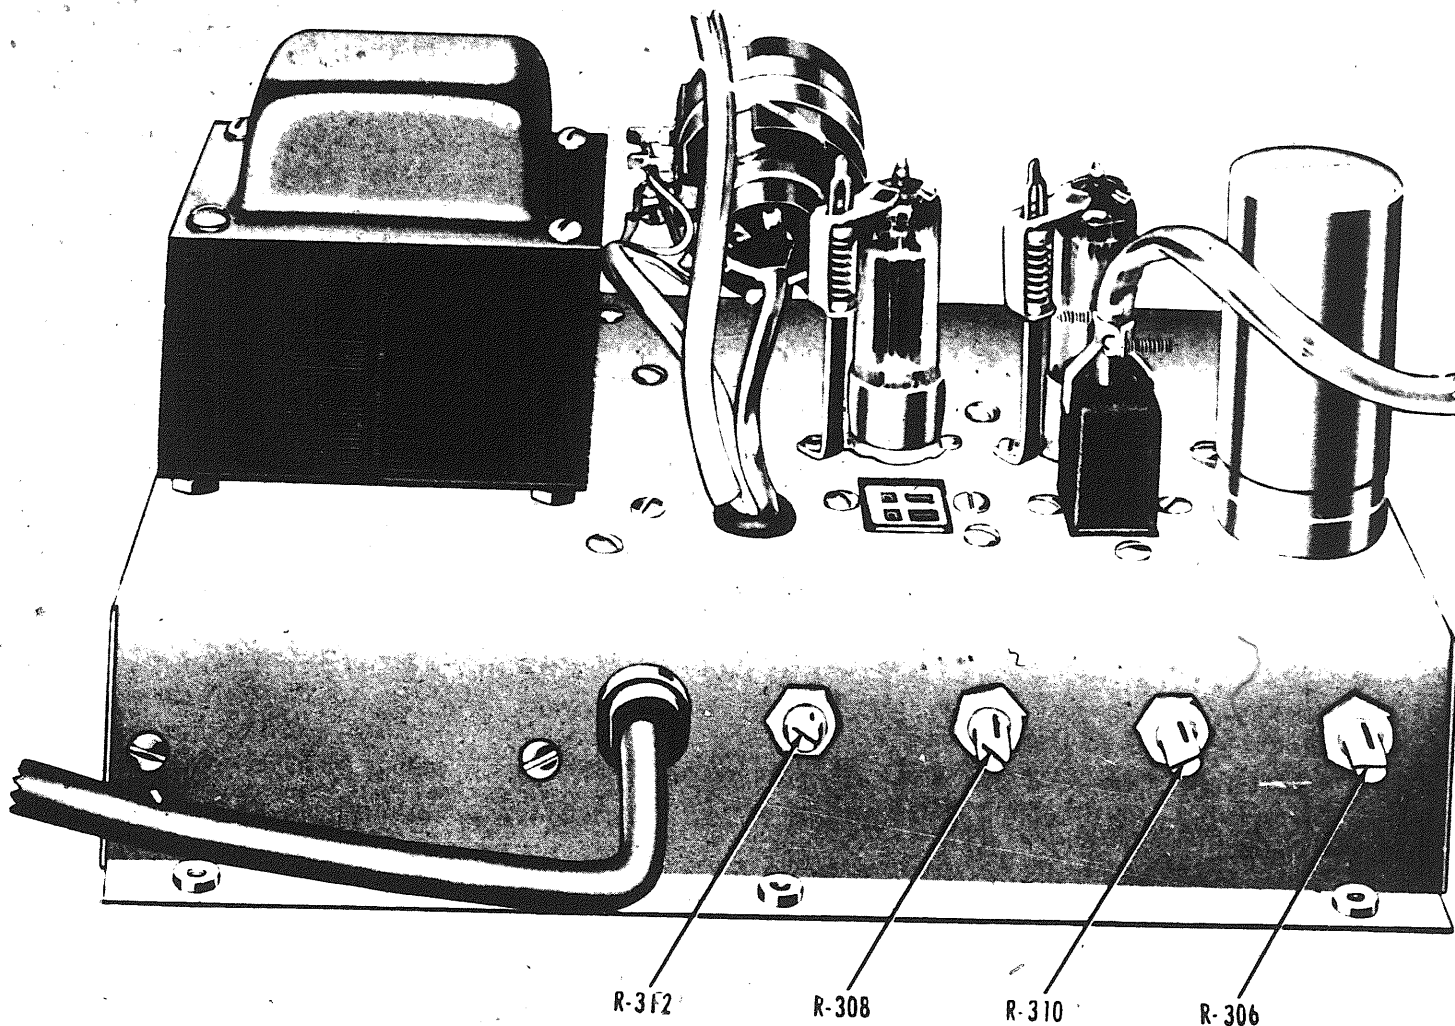

Figure VI-3 Power Supply chassis showing Q voltmeter calibration adjustments
*a.* These tubes are located on the power supply chassis (Figure VI-3) and are easily removed for replacement. No adjustments are required when any of these tubes are replaced.
d. To provide maximum control for the Q ZERO potentiometer, set the Q ZERO control to its mid-position and approximately zero the CIRCUIT Q meter with R-312 (Figure VI-3).
g. Apply successively 5, 4, 3, 2, and 1 volt, adjusting R-310 (Figure VI-3) to obtain the best overall accuracy of Q readings which should be 250, 200, 150, 100, and 50, respectively.
b. With the lever key depressed to the LOW Q position, successively apply 1.2, 1.0, 0.8, 0.6, 0.4, and 0.2 volts, adjusting R-308 (Figure VI-3) to obtain the best overall accuracy of LOW Q readings which should be 60, 50, 40, 30, 20, and 10, respectively.
k. With the lever key still in the ΔQ position, apply successively 3.2, 3.4, 3.6, 3.8, and 4.0 volts, adjusting R-306 (Figure VI-3) to obtain the best overall accuracy of ΔQ readings which should be 50, 40, 30, 20, 10, and 0, respectively.